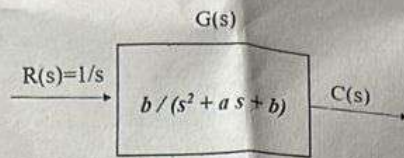

Fig. 2 Second order system
6. A general second order system is given by the following block diagram for the unit step input as shown in fig. 2